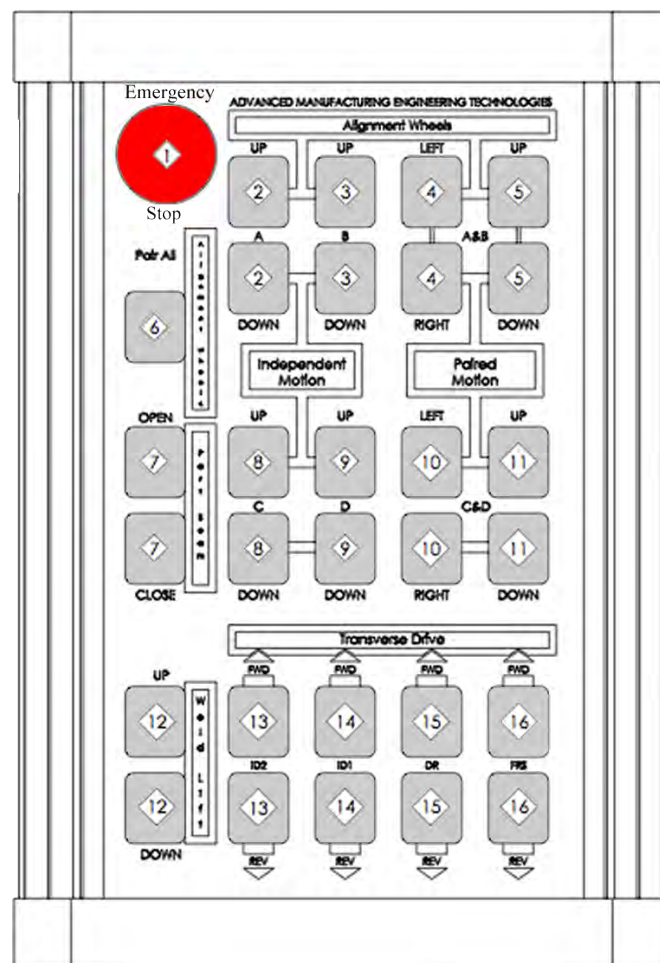
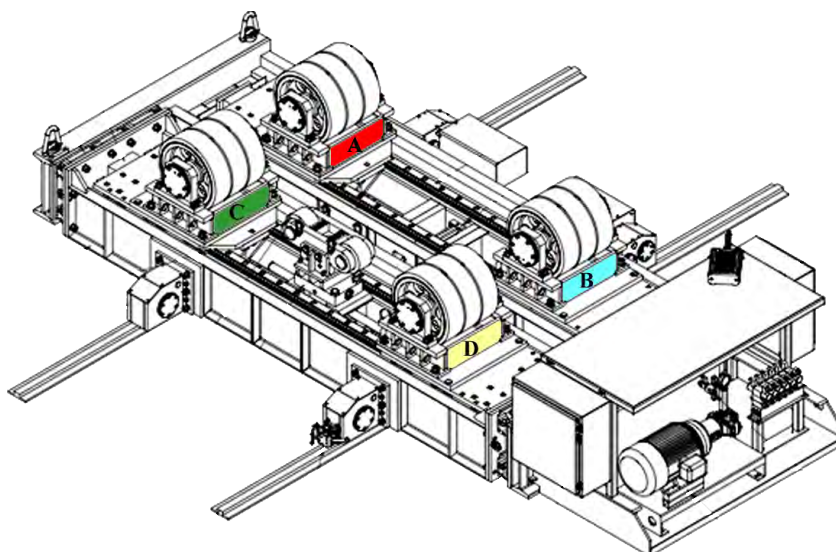

Figure 5.5 90 Tonne Fit-up Pendant
Figure 5.6 Fit-Up Station
All movement on the Fit-Up Station is controlled with the Fit-Up Pendant (Figure 5.5).
The E-Stop Button (Figure 5.5 Item 1) immediately cuts power to all motors to stop movement and avoid damage to persons and equipment. To disable E-Stop pull the red “Emergency Stop” Button up.
By using the Independent Motion buttons (Figure 5.5 Items 2, 3, 8, 9) only the Support Wheel labeled will move. For example: If Button 5.2. Item 2.UP is pressed Support Wheel A (Figure 5.6 Item A) will travel toward the center of the Fit-Up Station, until the button is released, to bring the can up.
Paired Motion moves both Support Wheels on each half at the same time in the designated direction. For example: If Button 5.5 Item 10.LEFT is pressed Support Wheels C and D (Figure 5.6 Items C & D) will both travel left at the same rate until the button is released.
The Pair All button (Figure 5.5 Item 6) brings all four (4) Support Wheels to the approximate center of their track. This streamlines the process of changing from a large part to a small part or vice versa.
The Seam Closure buttons (Figure 5.5 Item 7) bring the two halves of the Fit-Up Station closer together or farther apart. For example: If two cans are loaded and need to be brought together, the user may press the Close button (Figure 5.5 Item 7.CLOSE) to butt them against one another.
The Fit-Up Pendant is can control the movement of transverse drives connected to both the Fit-Up Station as well as a set of idle turning rolls. The Idler (Figure 5.5 Item 12) and Fit –Up Station buttons (Figure 5.5 Item 13) control the movement of the transverse drives indicated. Pressing the FWD button in either section drives the cart toward the manipulator, while pressing REV drives it away from the manipulator.